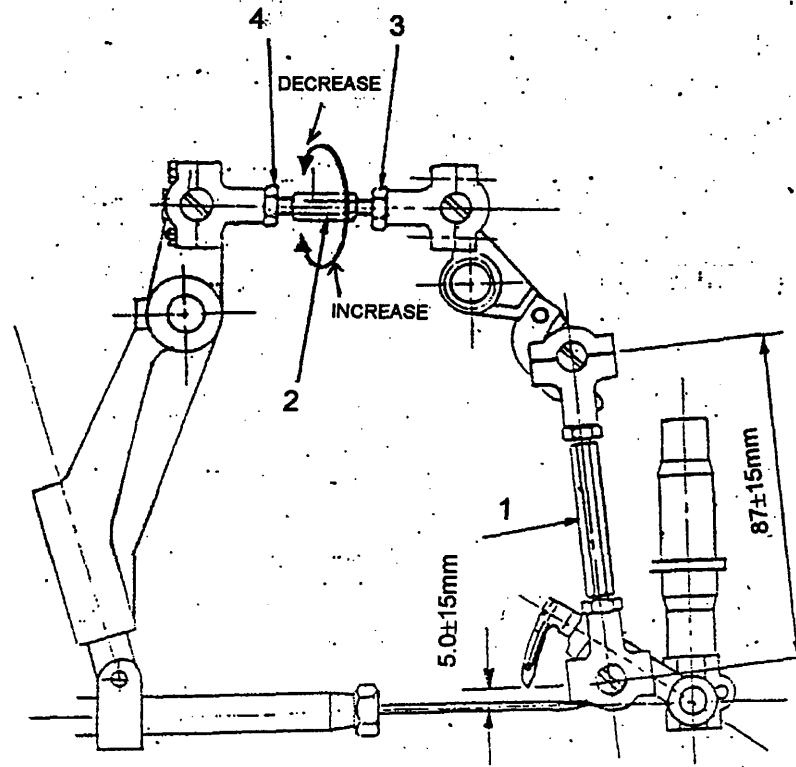

Fig.07
A. Adjustment / Distance between the looper & needle. (Fig. 07)
- b. Check whether the distance (1) of linkage (3200812) is about 86.9 - 87.10 mm
- c. Turn the gear (3200601) in order to set the looper (3200827) to the left end and keep the distance between the top end of looper and needle is about 4.9 - 5.1 mm. Then loosen (2) the nut (3 & 4) of linkage set (3200819) so as to adjust the distance at the normal level.